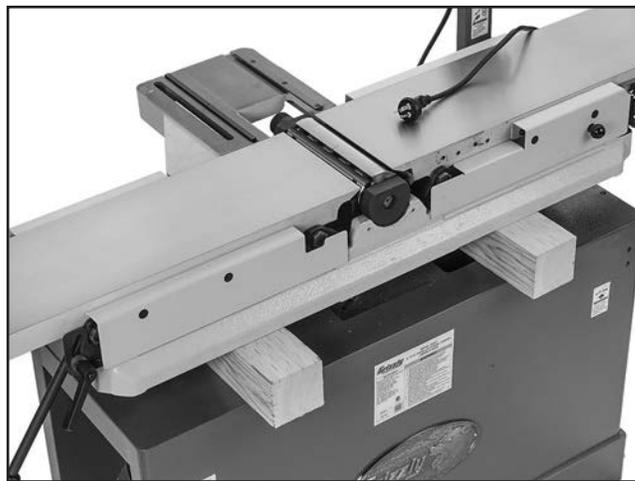

Figure 3. Table base supported by wood blocks.
7. With help from an assistant, lift one side of the table base and place (1) 24" 4x4 wood block underneath, as shown in **Figure 3**. Repeat for the opposite side.